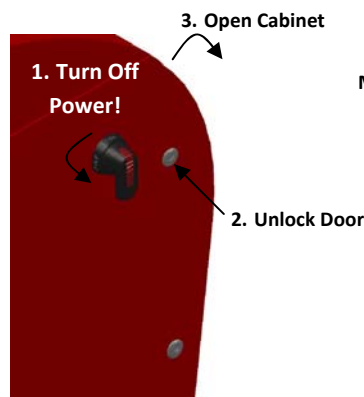

Figure 2.4
2. Ensure that the machine's electrical power supply has been disconnected at the supply source. Turn the machine's Main Disconnect Switch to the Off position. Using the special key, open the door of the Main Electrical Control Cabinet (see Figure 2.4).